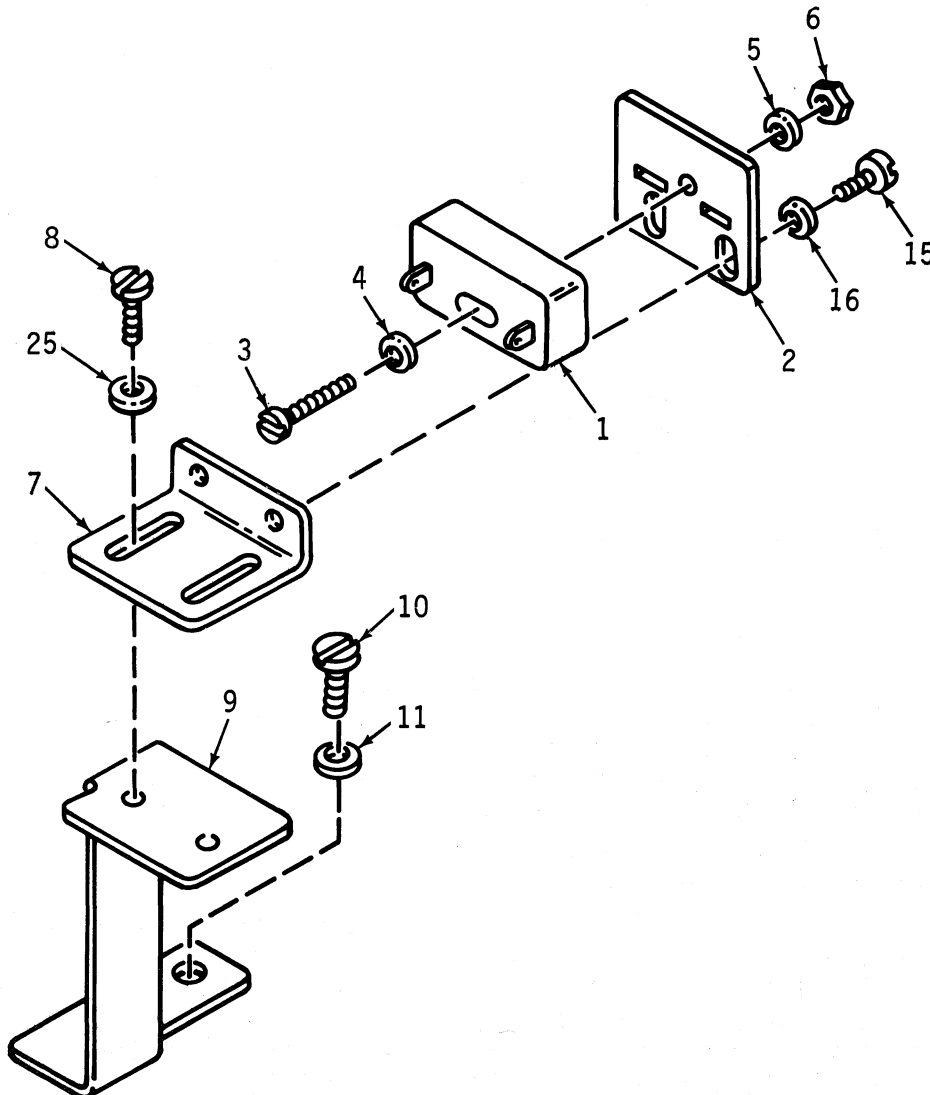

Figure 5-8. REED SWITCH ASSEMBLY, LEFT (AG)
A. Reed Switch (Left and Right) (See Figure 5-8)